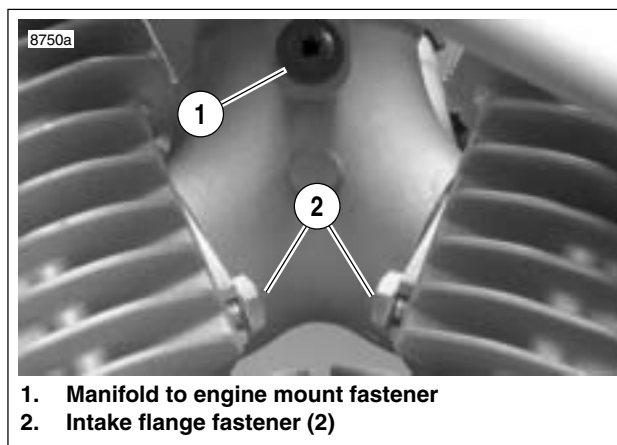

Figure 4-109. Intake Manifold (primary side)
- a. See Figure 4-109. On primary side, loosen but do not remove the two front and rear intake flange fasteners (2).
- b. Remove fastener (1) holding manifold to engine mount.
- a. See Figure 4-109. Slide the assembly toward installed position. Manifold should slide over fasteners (2) on primary cover side of engine.